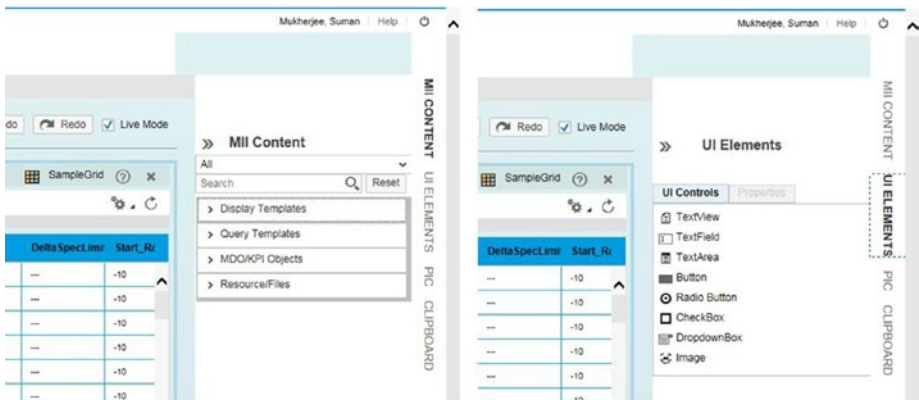

Figure 3-37. The Design Dashboard right side menu
- **Right Side Pane Bar:** Contains multiple tabs, first of which is the MII objects that could be integrated with any SAP MII content like query or display template in the layouts to create dashboards. The second one is the UI elements that contain all the available UI designing controls like Button, Dropdown, Textbox, Radio button, checkbox, etc. You need to drag and drop it into the layout to design your own dashboard. Similarly, PIC and Clipboard is used to embed the PIC hierarchy and to refer to the clipboard content used in the dashboard design. See Figure 3-37.